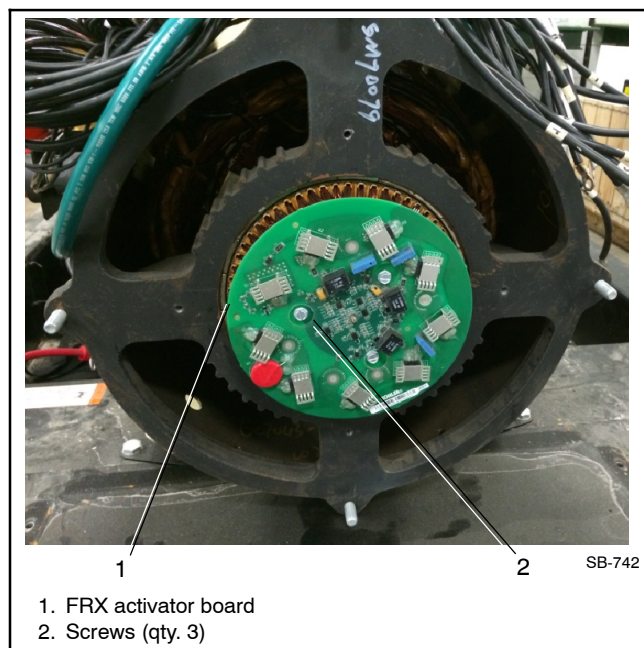

Figure 6 Removing the FRX Activator Board
- 3.4 Remove the three screws and the existing FRX activator board from the exciter armature. See Figure 6. The existing FRX activator board will not be reused.